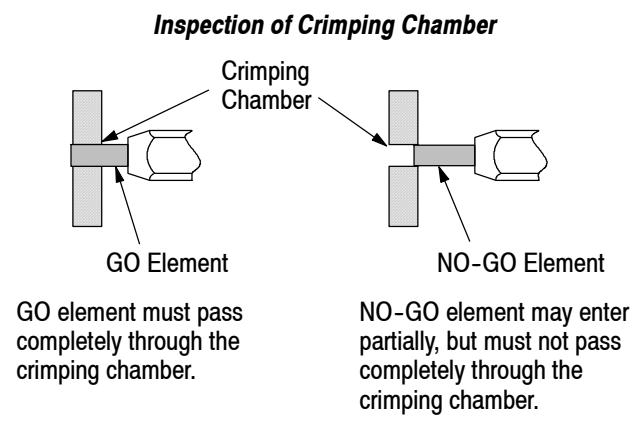

Figure 4
This inspection requires the use of a plug gage conforming to the dimensions provided in Figure 4. Tyco Electronics does not manufacture or market these gages. For further information on plug gages, refer to 408-7424.
3. Carefully insert GO element into the crimping chamber; do not force it. The GO element must pass completely through the crimping chamber. See Figure 4.
4. In the same manner, try to insert NO-GO element into the same crimping chamber. The NO-GO element may begin entry, but may not pass through the crimping chamber. See Figure 4.